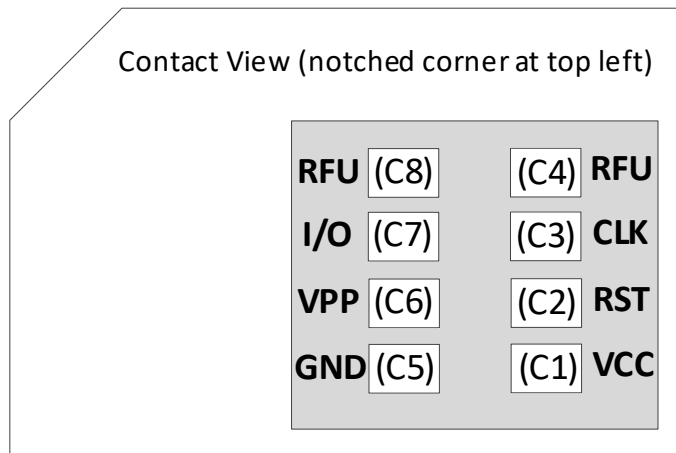

Figure 3-5 SIM Card Contacts (Contact View)
1. Refer to Figure 3-5 for SIM card contacts.